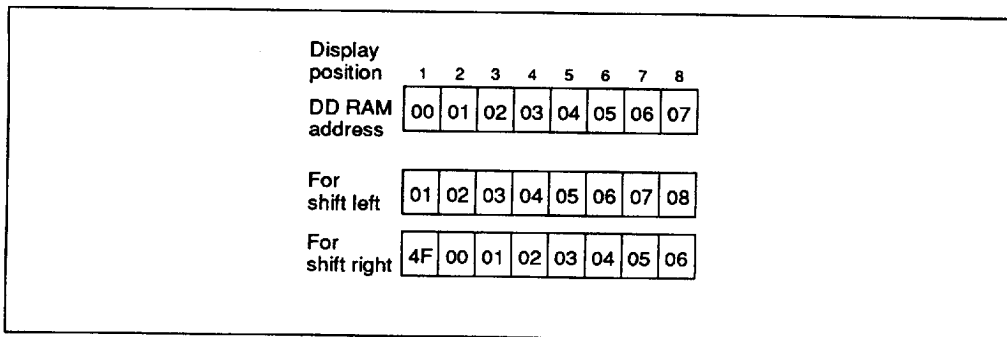

Figure 3 1-Line by 8-Character Display Example
- Case 1: When there are fewer than 80 display characters, the display begins at the head position. For example, if using only the HD44780, 8 characters are displayed. See figure 3.
When the display shift operation is performed, the DD RAM address shifts. See figure 3.